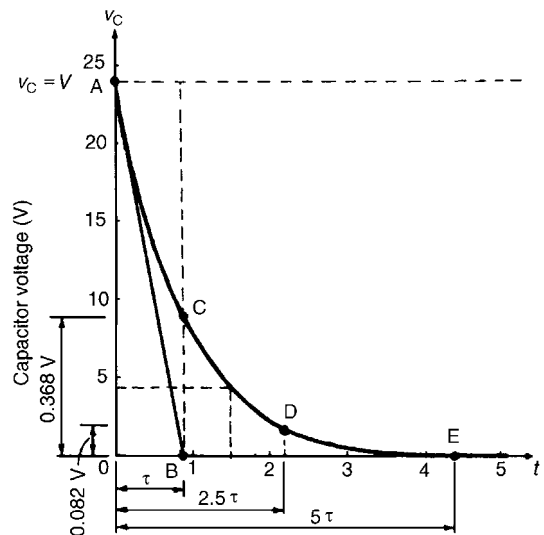

Figure 18.5
- The exponential decay of capacitor voltage is from 24 V to 0 V in a time equal to five time constants, i.e. $5 \times 0.88 = 4.4$ s. With reference to Fig. 18.5, to construct the decay curve:
- (vi) the value of the transient after a time equal to two and a half time constants is 0.082 of the initial value, i.e. $0.082 \times 24 = 1.97$ V, shown as point D in Fig. 18.5,
- (b) The voltage drop across the resistor is equal to the capacitor voltage when a capacitor is discharging through a resistor, thus the resistor voltage/time characteristic is identical to that shown in Fig. 18.5. Since $v_R = v_C$, then at 1.5 seconds after decay has started, $v_R \approx 4.4$ V (see (vii) above).